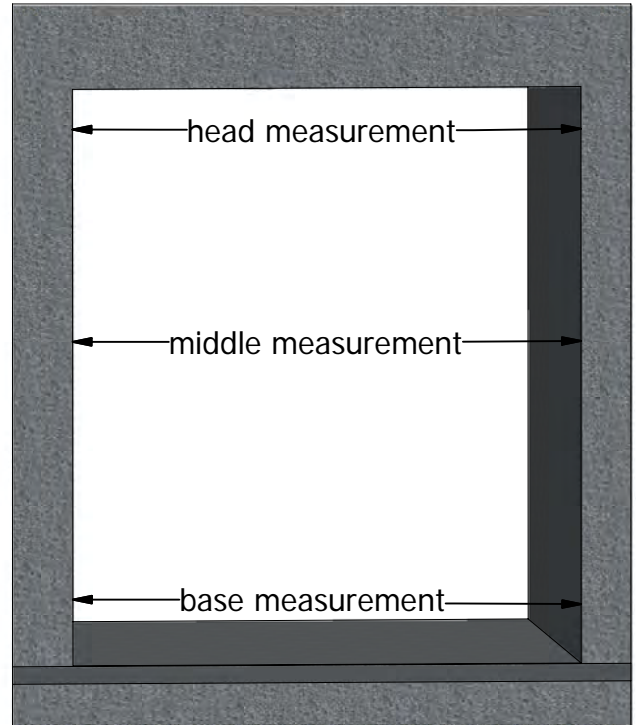
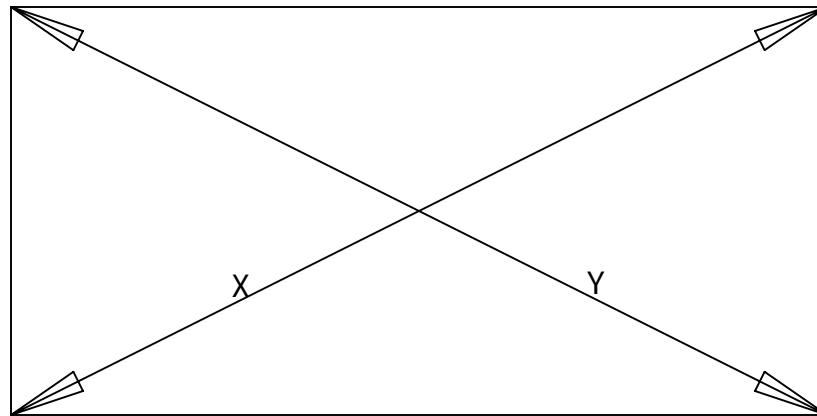

FIGURE 3.1
figure 4.1
- Measure at least three places- the top, the middle, the base widths of the opening (*figure 3.1*).
- Take the smallest measurement and subtract clearances to find the frame width (FS). Cross Aluminum Products standard clearance is 1/4" both sides. In this case, you would take the smallest width measurement and subtract 1/2". For out-of-square openings or architectural specs, the clearance can be increased to 3/8" both sides (subtract 3/4").
A good practice is to check for squareness of each opening. One way to check for this is to measure from the bottom left corner to top right corner and then measure from the bottom right corner to the top left corner. These two measurements should be equal for the opening to be square. If the entrance is out of square, the clearances will need to be increased to allow the framing unit to be shimmed in plum and square. (*figure 4.1*)
- B.) Make sure opening is suitable for installation of new framing and door system. Check squareness (*figure 4.1*) and proper floor slope to eliminate standing water. Confirm and compare all measurements of opening with shops, architecturals, new aluminum frame system, etc. (*figure 3.1 & 3.2*)